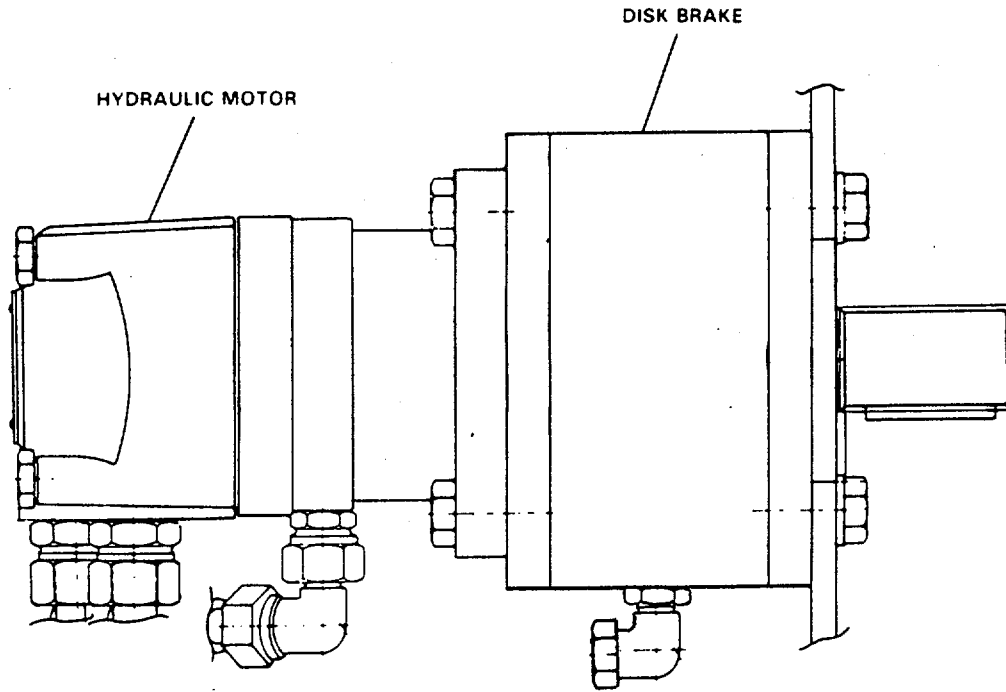

FIGURE 1-17. Hydraulic Motor and Disk Brake Assembly.
p. Hydraulic Motors. (FIGURE 1-17). Two identical reversible hydraulic motors drive the right and left steering gear assemblies. Piping to the motors is configured to operate both motors in parallel from a common control valve. The motors drive identical gear assemblies which engage opposite arcs of the bevel gear and therefore turn in opposite directions.
q. Disk Brakes. (FIGURE 1-17). A disk brake between each hydraulic motor and the associated steering gear mechanically applies friction to the motor shaft whenever hydraulic pressure is below the threshold of the load holding valve. During normal steering, this brake is disengaged. At all other times, it is engaged.